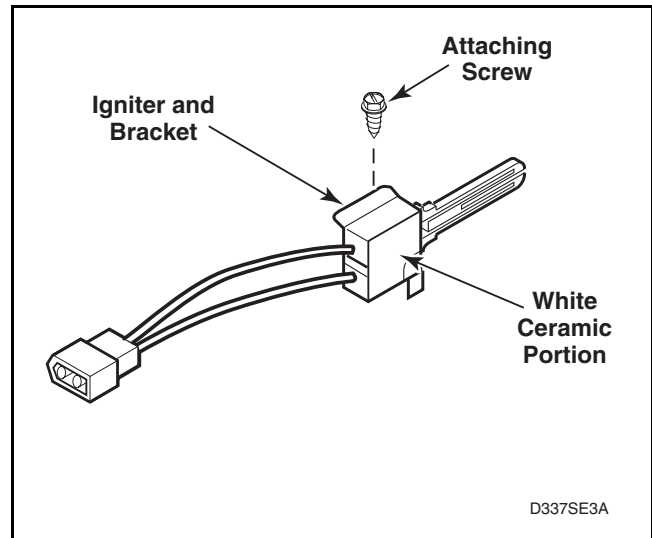

Figure 49
- f. Meter should read between 45 – 200 Ohms. Refer to *Figure 49*.